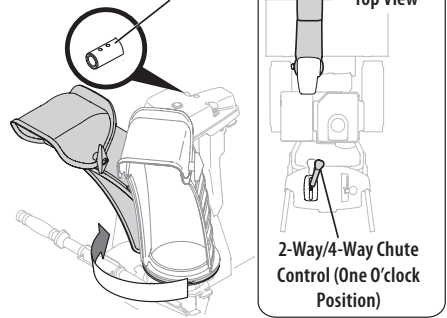
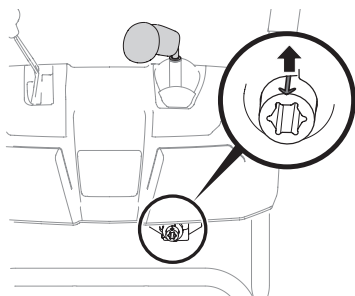

Figure 16
Figure 17
4. Squeeze trigger on 2-way/4-way chute control and rotate chute by hand to face forward. The holes in chute control collar will be facing up (Figure 16).
5. Rotate 2-way/4-way chute control to one o'clock position (Figure 16) so that indicator arrow on pinion gear below control handle faces upward (Figure 17).